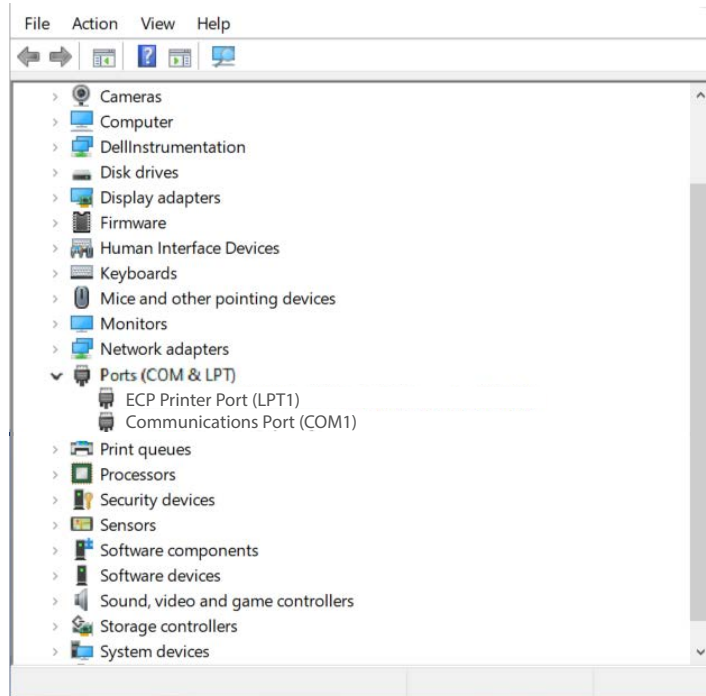

Figure 21. Device Manager
2. Open Device Manager in Control Panel. See Figure 21.